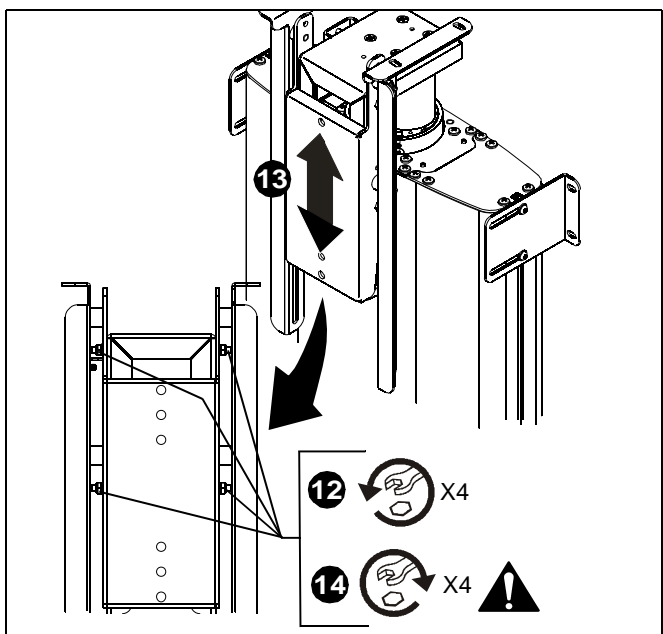

Figure 6
9. Secure faceplate to faceplate mounting bracket using two locknuts. (See figure 6)
12. Loosen four nuts securing faceplate mounting bracket to frame. (See figure 6)
13. Slide faceplate mounting bracket upward desired amount. (See figure 6)